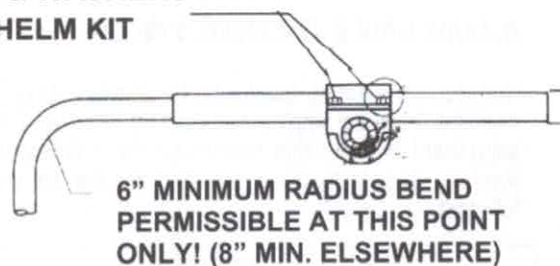

FIGURE 1 (VIEWED FROM BACK OF HELM)
Place the cable and drive assembly on top of the helm unit taking care that the pinion gear of helm unit meshes with gear teeth on rack. Turn helm shaft to accomplish this. Fasten cable and drive assembly to rack using (4) ¼-20 x 1" long locking patch bolts and (4) ½" OD flat washers provided with the helm (see Figure 1). Make sure the washers are under the head of the bolt. Tighten all 4 bolts equally and securely.